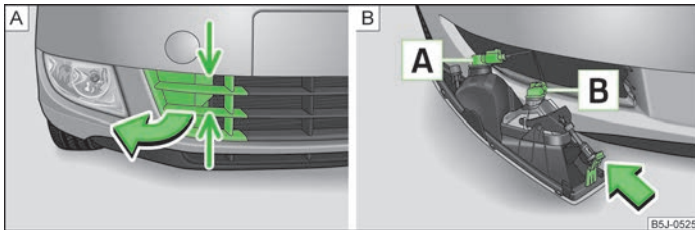

Fig. 147 Front bumper: Protective grille/removing the fog light
Bulb arrangement » Fig. 147.
» Grasp the protective grille in the areas marked by the arrows » Fig. 147 - **A** and remove the cover.
- » Insert your hand into the opening in the protective grille and press the catch » Fig. 147 - **B** in the direction of the arrow.